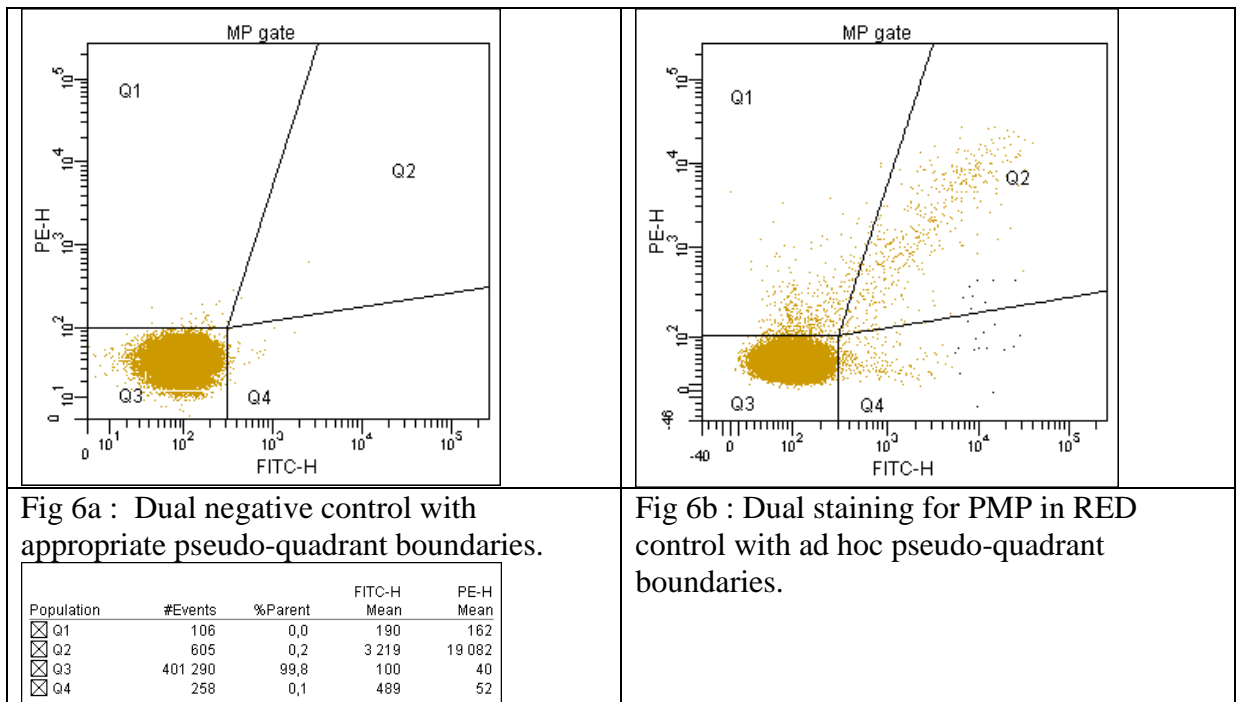

Fig 6a : Dual negative control with appropriate pseudo-quadrant boundaries.
Illustrations on FACS CantoII (BD) (Fig6a/b)